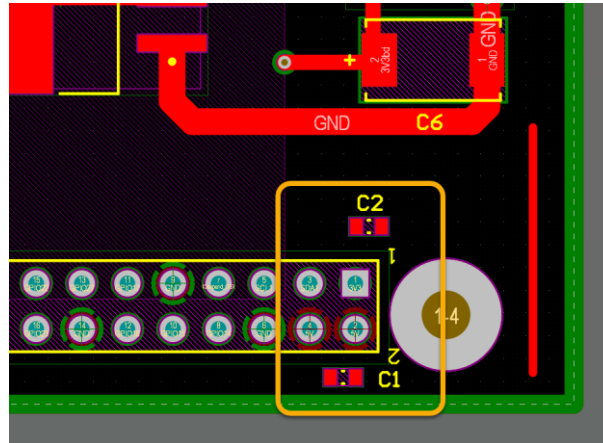

Figure 15. Positioning components C5 and C6 loosely
43. Click to place C1 in the bottom right corner as shown in Figure 15, using the **Spacebar** to rotate.
44. Component C2 should now automatically jump to your cursor. Place it in accordance with Figure 15.